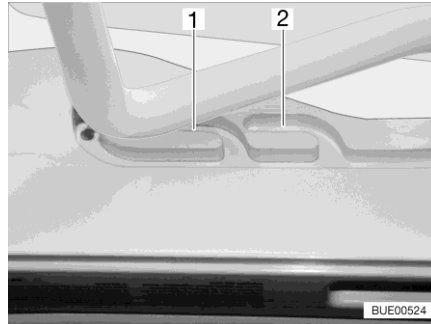
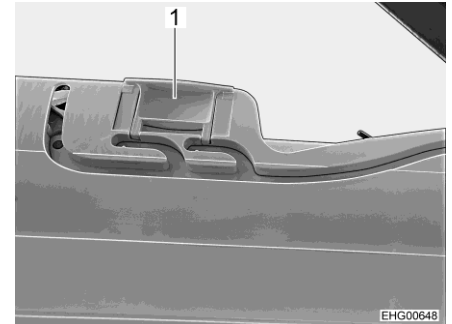

Fig. 29 Guide (ventilation position)
Fig. 30 Lock (ventilation position)
The Heki skylight can be put in two ventilation positions: Bad weather position (Fig. 29,1) and central position (Fig. 29,2). Depending on the model, the skylight can be locked in the central position with both left and right latches (Fig. 30,1) on the skylight frame.
- Push the bar slightly upwards and into the selected guide (Fig. 29,1 or 2) and lock if necessary.